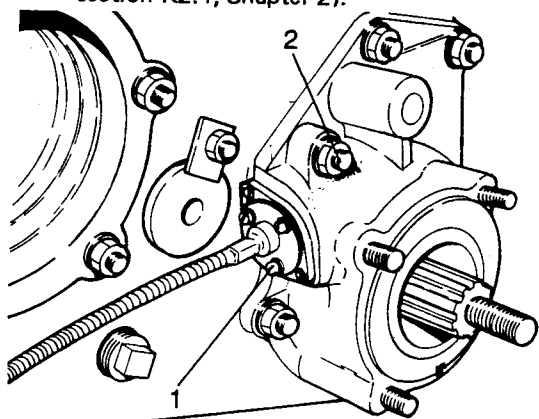

Fig H1.13
(3) Refer to Fig H1.13. Remove the fixing of the speedometer cable plate (1) and disconnect it from the gearbox.
(4) Remove the fixing from the speedometer cover (2).